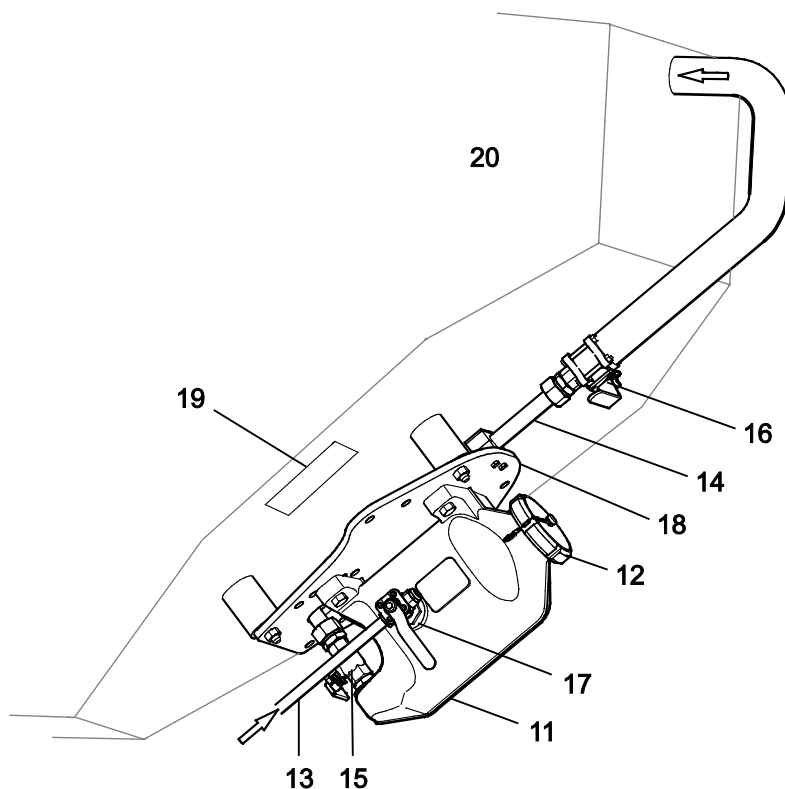

Figure 25
- ▶ Check that the protection valve (16) is closed (see Figure 25).
- ▶ Check that the On-Off valve (15) is closed.
- ▶ Check that the combined pressurised air valve/pressure release valve (17) is in the venting position.
- ▶ Loosen and carefully remove the cover cap (12).
- ▶ Fill the specified amount of granulate into the container (11).
- ▶ Screw on and tighten the cover cap (12).
- ▶ Open the pressurised air valve (17).
- ▶ Open the protection valve (16).
- ▶ Open the On-Off valve (15) for cleaning the turbine for 3 ... 4 minutes.
- ▶ Close the On-Off valve (15).
- ▶ Close the protection valve (16).